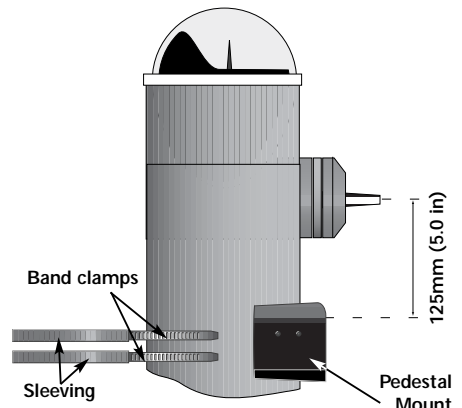

Fig 5.4 - Correct positioning of pedestal mount
2. Position the pedestal mount on the front of the pedestal. The vertical distance between the centres of the circular slots and the centre of the wheel shaft should be 125mm (5.0in) and the clamp should be exactly parallel with the wheel in both planes (Fig 5.4).